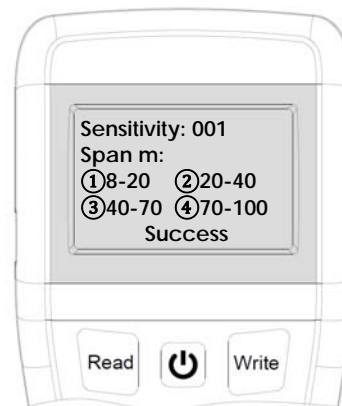

Figure 15
2. Then enter then press **"0/Page"** key to highlight the previous Span setting. Then press value from **1, 2, 3** or **4** correspond to the span value and then press **"Write"** key(Figure 15).